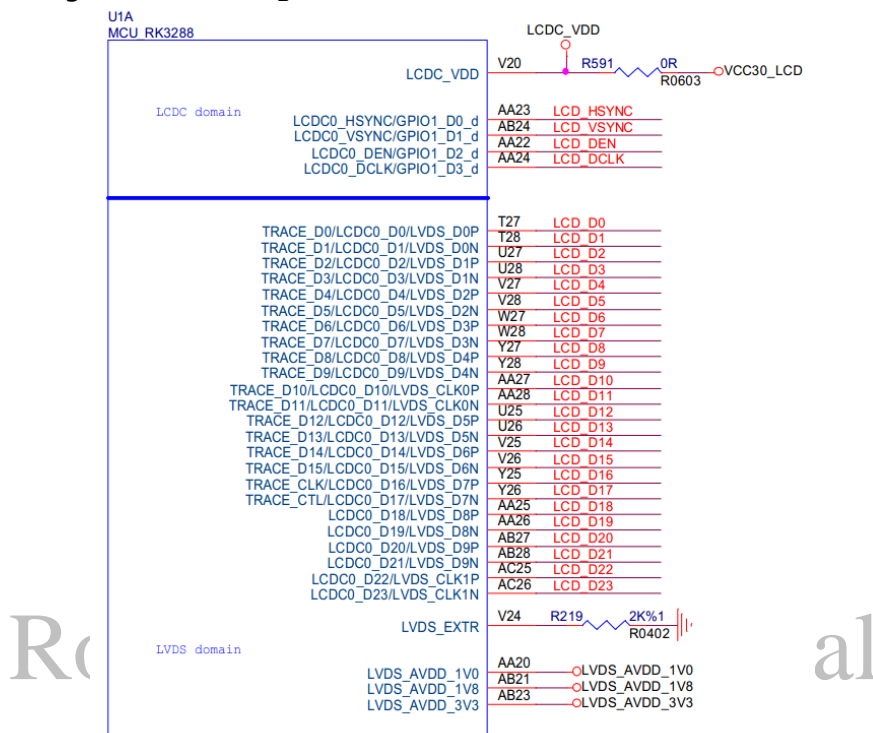
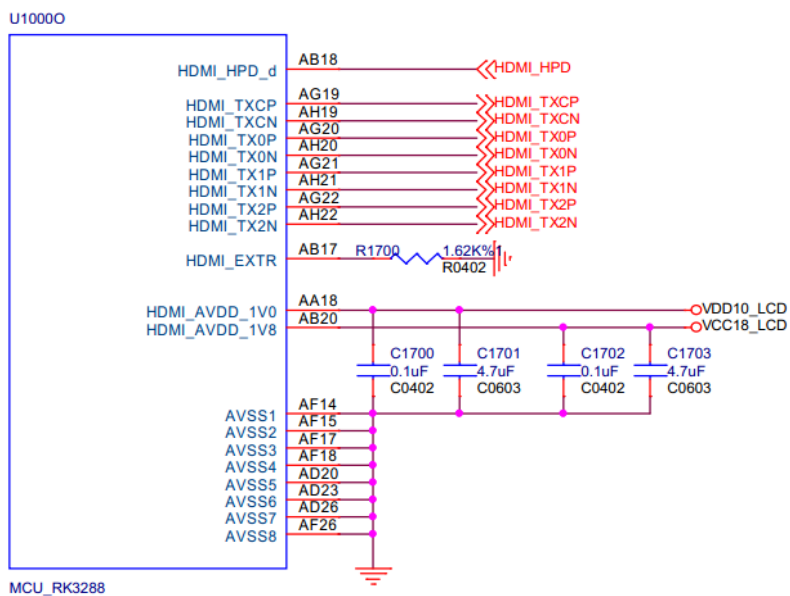

Figure 14-1
Figure 14-5
- RK3288 supports various video output modes like Parallel RGB, LVDS, MIPI, eDP, HDMI etc. The reference resistances of MIPI, LVDS, HDMI PHY please choose 1% accuracy and eDP is unnecessary to connect the external reference resistance, shown as Figure 14-1 to Figure 14-5.